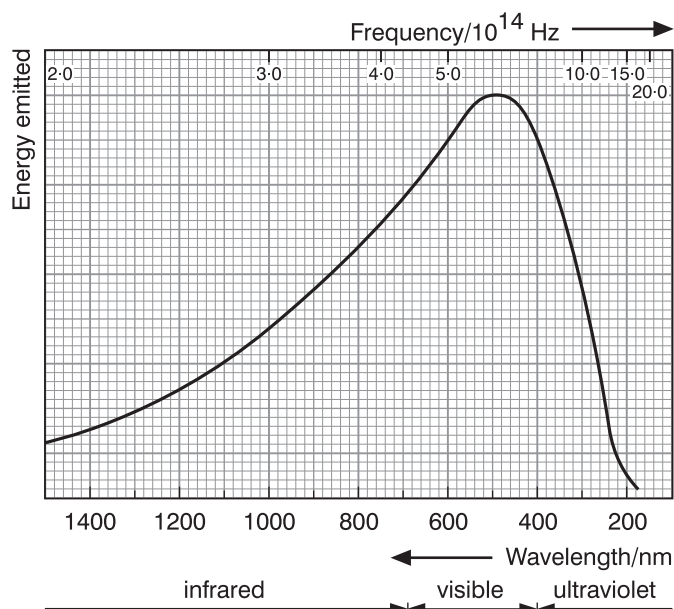

Figure 1 The spectrum of solar radiation in space
Figure 1 shows the spectrum of the Sun's radiation in space, that is before it has passed through the Earth's atmosphere. It shows the energy emitted at each wavelength (and frequency).
- On Figure 1 shade the area of the solar spectrum which corresponds to ultraviolet radiation.